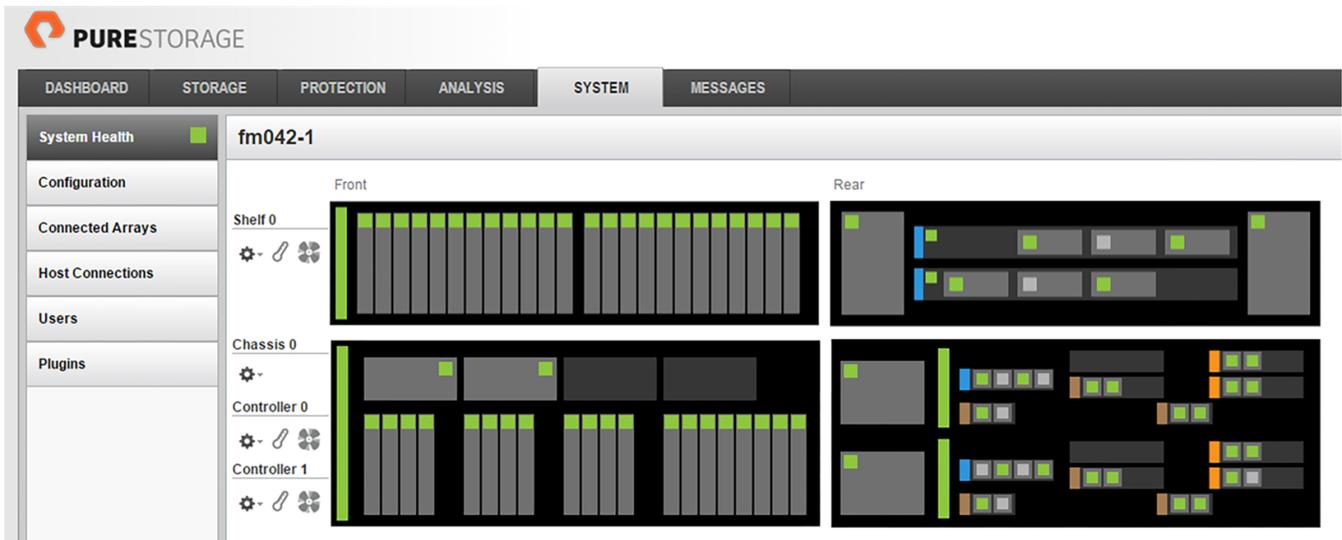

Figure 11-20. GUI Indicators of an Operational FlashArray//M
1. Request that the customer or Pure Storage Technical Support representative use the Purity GUI or CLI to verify the replacement. See Figure 11-20 for an example of GUI indicators that indicate an operational FlashArray//M.